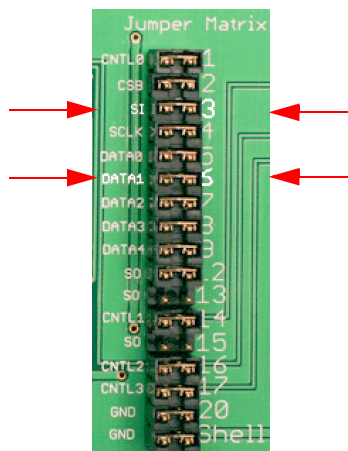

Figure 2. Jumper matrix on KITUSBSPIEVME converter board
3.3 If using the KITUSBSPIEVME, the dongle needs reworked on the SI connection as shown in Figure 2.
| 2.0 | 7/2016 | <ul style="list-style-type: none">Added section 3.3 If using the KITUSBSPIEVME, the dongle needs reworked on the SI connection as shown in Figure 2.Updated to NXP document form and style |